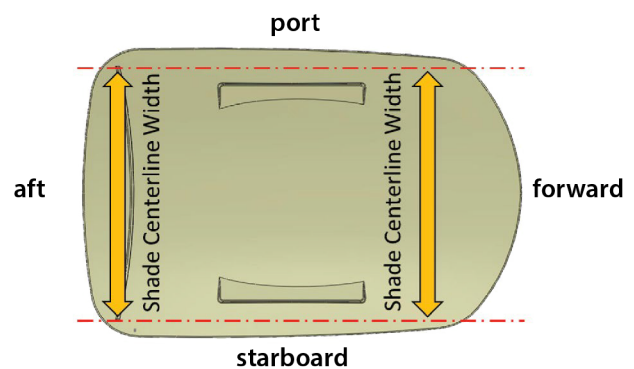

Fig.4
4. To verify centerline measurements, measure the distance from the port side to the starboard side at the forward and aft sections (Fig.4) to make sure marks are parallel. These measurements should be the same as the shade centerline width provided on the shade specification drawing.